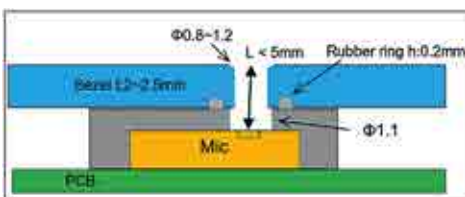

Figure 3: Design of rubber microphone holder and screen
The microphones in the array should have frequency responses that are as identical as possible and ideally differing from one another by no more than 1 dB. This allows the deviation of the calculation by the DSP to be reduced. The total length of the sound tunnel, i.e. the distance that the sound travels between the microphone and the upper edge of the screen (Figure 3) should not be more than 5 mm and the resonant frequency of the microphone channel should not be less than 12 kHz.
**4. Sealing of rubber microphone holder:** Another issue that can distort the sound quality is the sealing of the rubber microphone holder. To prevent the sound from the internal speaker on a device getting through a gap in the microphone's sound tunnel (Figure 3), the rubber holder and the screen on the microphone must be smoothly sealed. In addition, the sound insulation should be a minimum of 20 dB SPL (decibels sound pressure level).